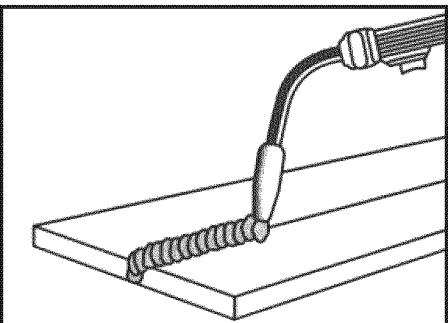

Fig. 13a
- FLAT POSITION is easiest of the welding positions and is most commonly used. It is best if you can weld in the flat position if at all possible as good results are easier to achieve. (Fig. 13a)